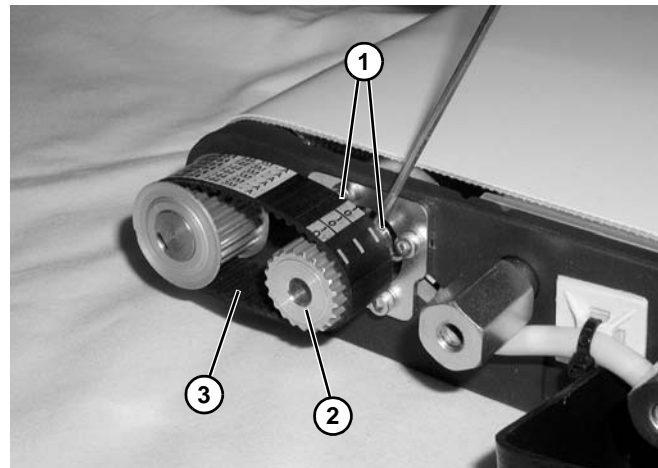

Figure 52
6. Loosen two set screws (Figure 52, item 1) on drive pulley (Figure 52, item 2). Slide drive pulley outward off of the gearmotor shaft, and remove timing belt (Figure 52, item 3).